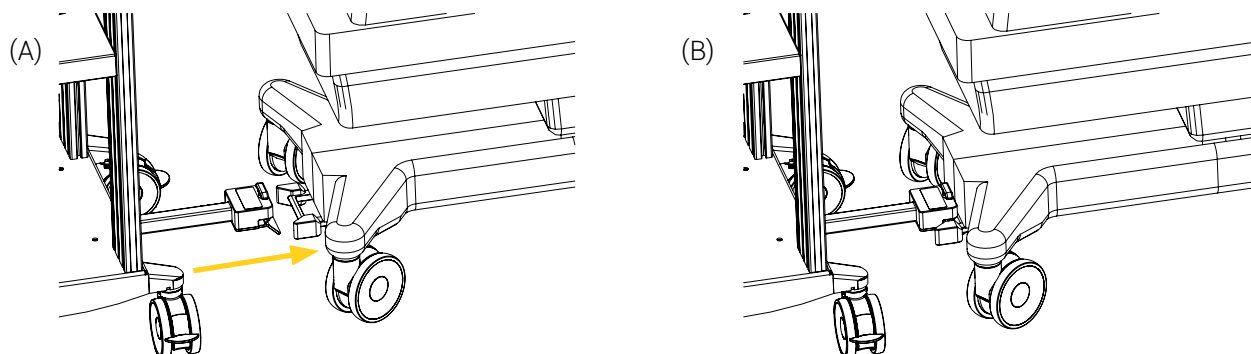

Figure 5 : Installation of the cart on the incubator
5. Move to the side of the cart, then align the fold-up hitch with the THS coupling device located under the incubator (Figure 5 A).
6. Pull the cart towards the incubator until the THS coupling device is inserted and fully secured in the fold-up hitch locking mechanism (Figure 5 B).